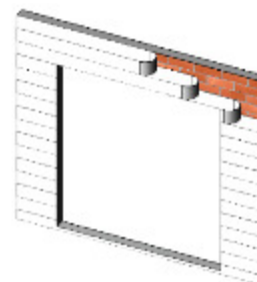

Figure 22:
4. Weather resistant building paper should be applied in a weatherboard fashion to complete the installation (Figure 22).